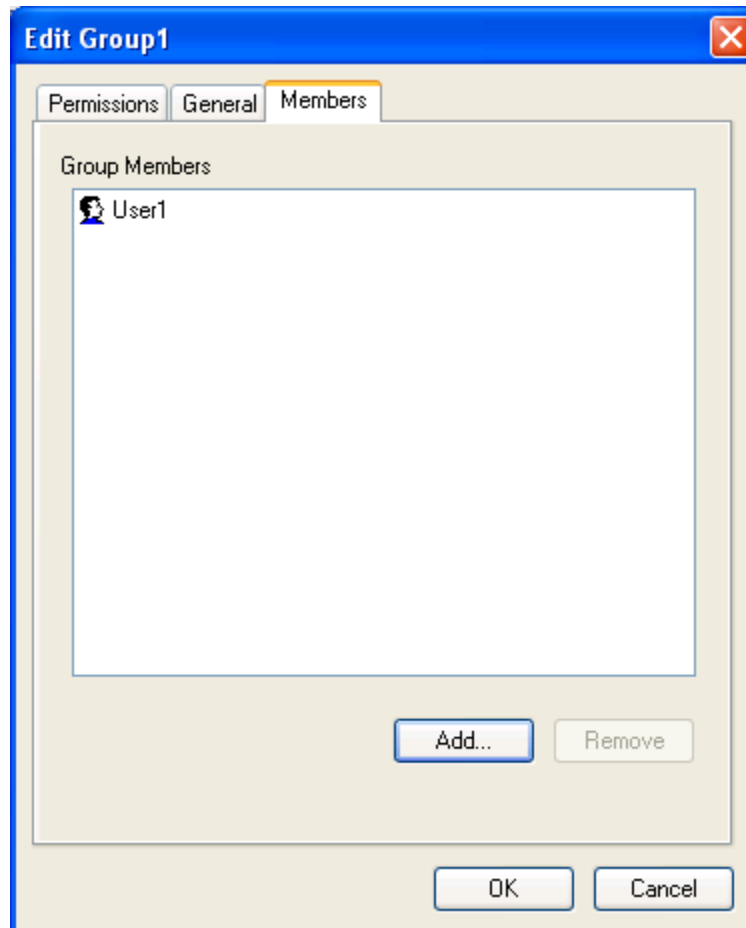

Figure 94 - Edit <Groupname> Window (Members Tab)
On the **Members** tab (Figure 94), the users that are part of the current group are defined. By default, the **Group Members** screen section is empty. In Figure 94, **User1** has been added to **Group1**.
3. Click on the **OK** button. The selected user or users appear in the **Group Members** screen section on the **Members** tab (Figure 94).